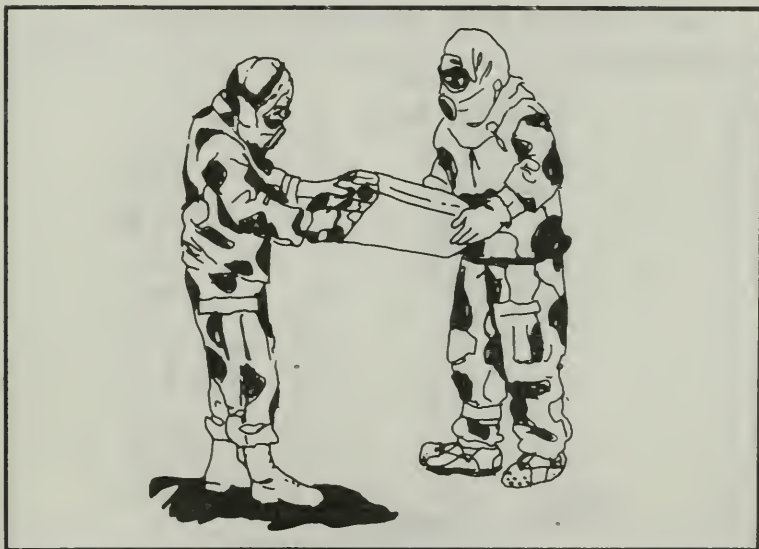

Figure 293. Unpacking the overgarment.
5. Step 5. Put on the overgarment. The buddy opens a package containing a new overgarment but does not touch the garment itself. The soldier reaches into the package and pulls out the overgarment one piece at a time without touching the outside of the package (Figure 293). The soldier now puts on the new overgarment, leaving the trouser cuffs open (Figures 294-296).